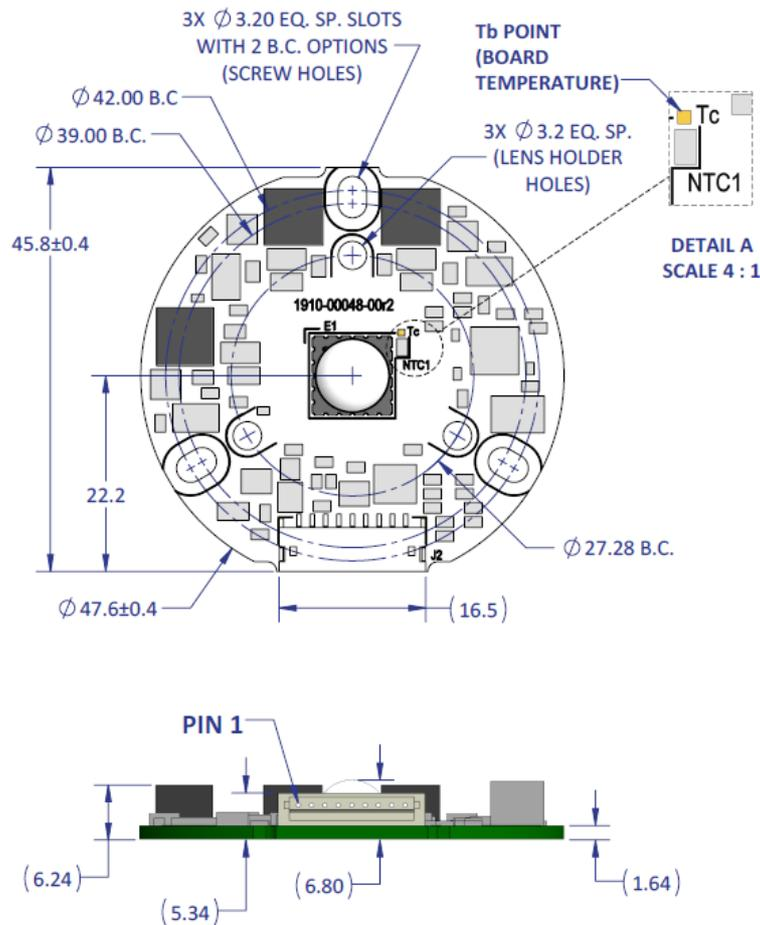

Figure 13: Mechanical dimensions of LuxiTune light engine – without secondary lens
- $T_c$  is referred to as  $T_b$  (emitter board) and  $T_0$  (driver board) in this product datasheet. The maximum of the 'Operating Temperature Range' is also referred to as 'rated maximum temperature  $T_c$ '. The temperature measurement point on the MCPCB, NTC1 is located next to the LED emitter. See figure 13. NTC1 should not exceed 85°C.
Notes for Figure 13:
The standard LuxiTune light engine is sold with supported secondary optics optimized for color mixing and efficiency. The following mechanical dimensions are provided as a guidance for luminaire design. The 3-legged lens holder sits in the 3 holes shown in Figure 13.
The board thermal reference point referred to as NTC1 is marked in Figure 13 and is used to control the performance of the light engine. In the case of insufficient cooling, the light engine will be protected by the driver. The driver continuously monitors the temperature at NTC1 and will reduce the power in steps of 10% when the temperature rises above 85°C. At 105°C the light engine will be turned off.